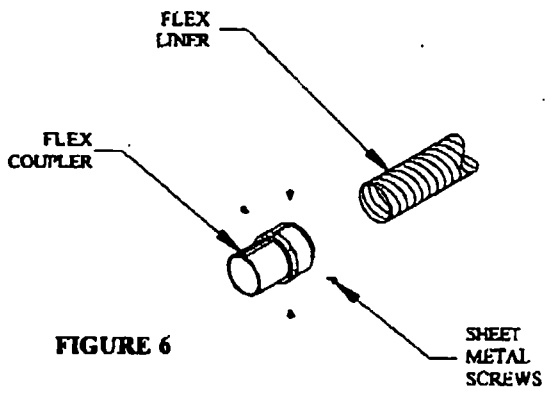

FIGURE 6
Step 7. Attach the Flex Liner ends at the top of the chimney to the Co-Linear to Co-Axial Adaptor. Use four sheet metal screws to connect each Flex Liner run to the Adaptor. (Figure 6)